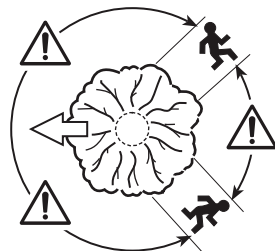

Fig.29
3. An escape path should be planned and cleared as necessary before cuts are started. The escape path should extend back and diagonally to the rear of the expected line of fall (Fig. 29).